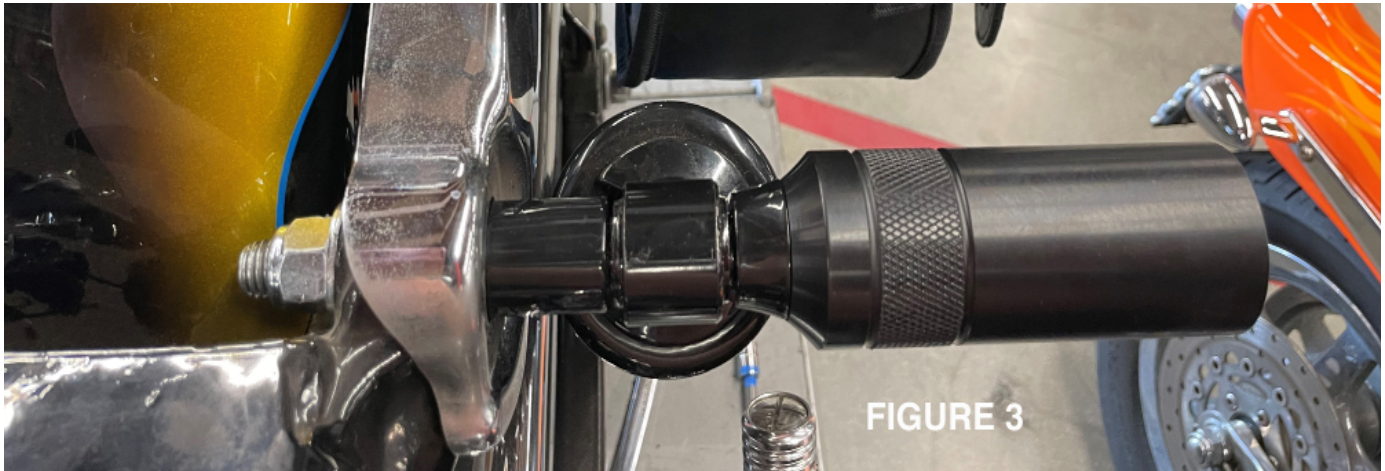

FIGURE 3
6. Install Flat Washer (#7) and Lock Nut (#8) onto exposed bolt threads and tighten (75-85 ft-lbs) See Figure 3 for reference of complete installation.